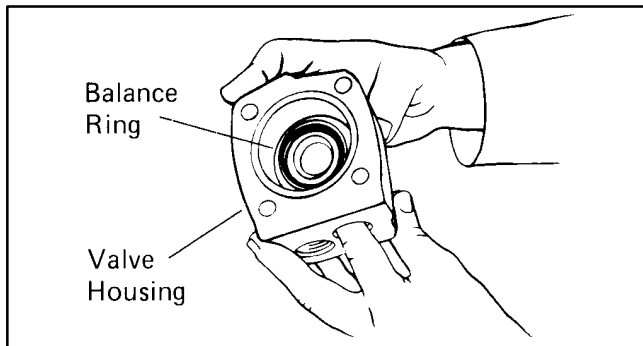
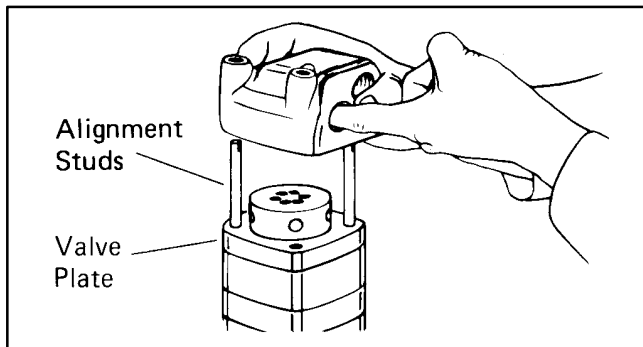

Figure 82
Figure 83
39. Insert your finger through port of valve housing. Apply pressure to side of balance ring as shown in Fig. 82. Hold ring in position until valve housing is in place against valve plate. See Fig. 83.